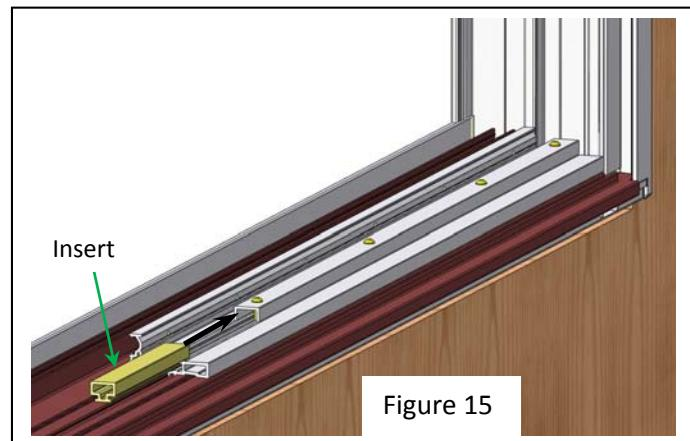

Figure 15
12) Slide the T-shaped insert into the fabricated end of each fixed panel support as shown (Fig. 15). Be sure the legs on the insert interlock with the projecting legs on the panel support. Push the insert in until it is flush with the end of the fixed panel support.